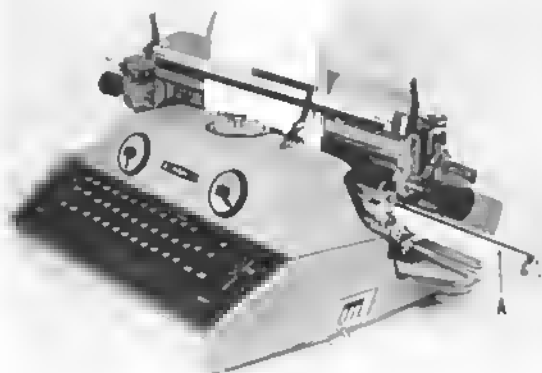

Figure 19
1. Open feed rolls and insert split roller in paper basket with open jaws of roller facing upward (A of Figure 19). The left end of roller *must not* extend beyond the right side of the line spacing device housing. Insertion beyond this point may result in uneven paper feed.